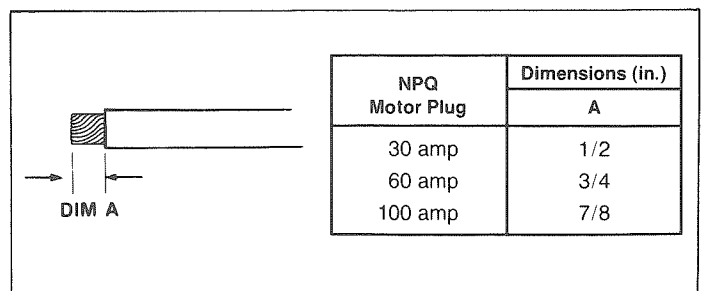

Figure 5. Conductor Insulation
4. Strip conductor insulation to the dimensions shown in Figure 5. A conductor strip gage is also located on the motor plug housing. These dimensions will allow the conductor to bottom in the contact wire well and the conductor insulation to extend into the insulated housing.
- Remove insulation from conductor as shown in Figure 5 and wire brush contact wire well.